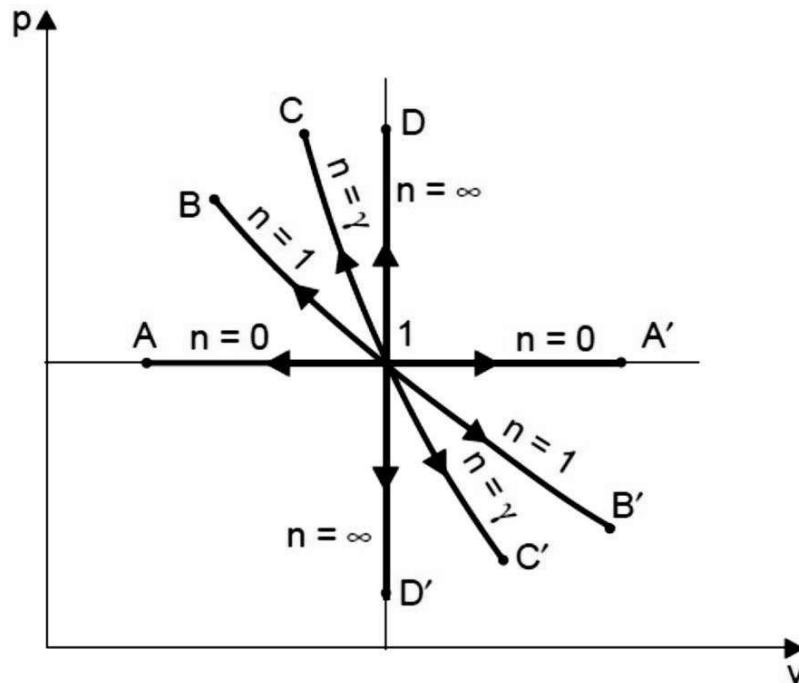

Fig. 2.19 Polytropic process for different values on index 'n'
- In a Polytropic process, the index  $n$  depends only on the heat and work quantities during the process. The various processes considered earlier are special cases of Polytropic process for a perfect gas. This is illustrated on P-v diagram in Fig. 2.19.